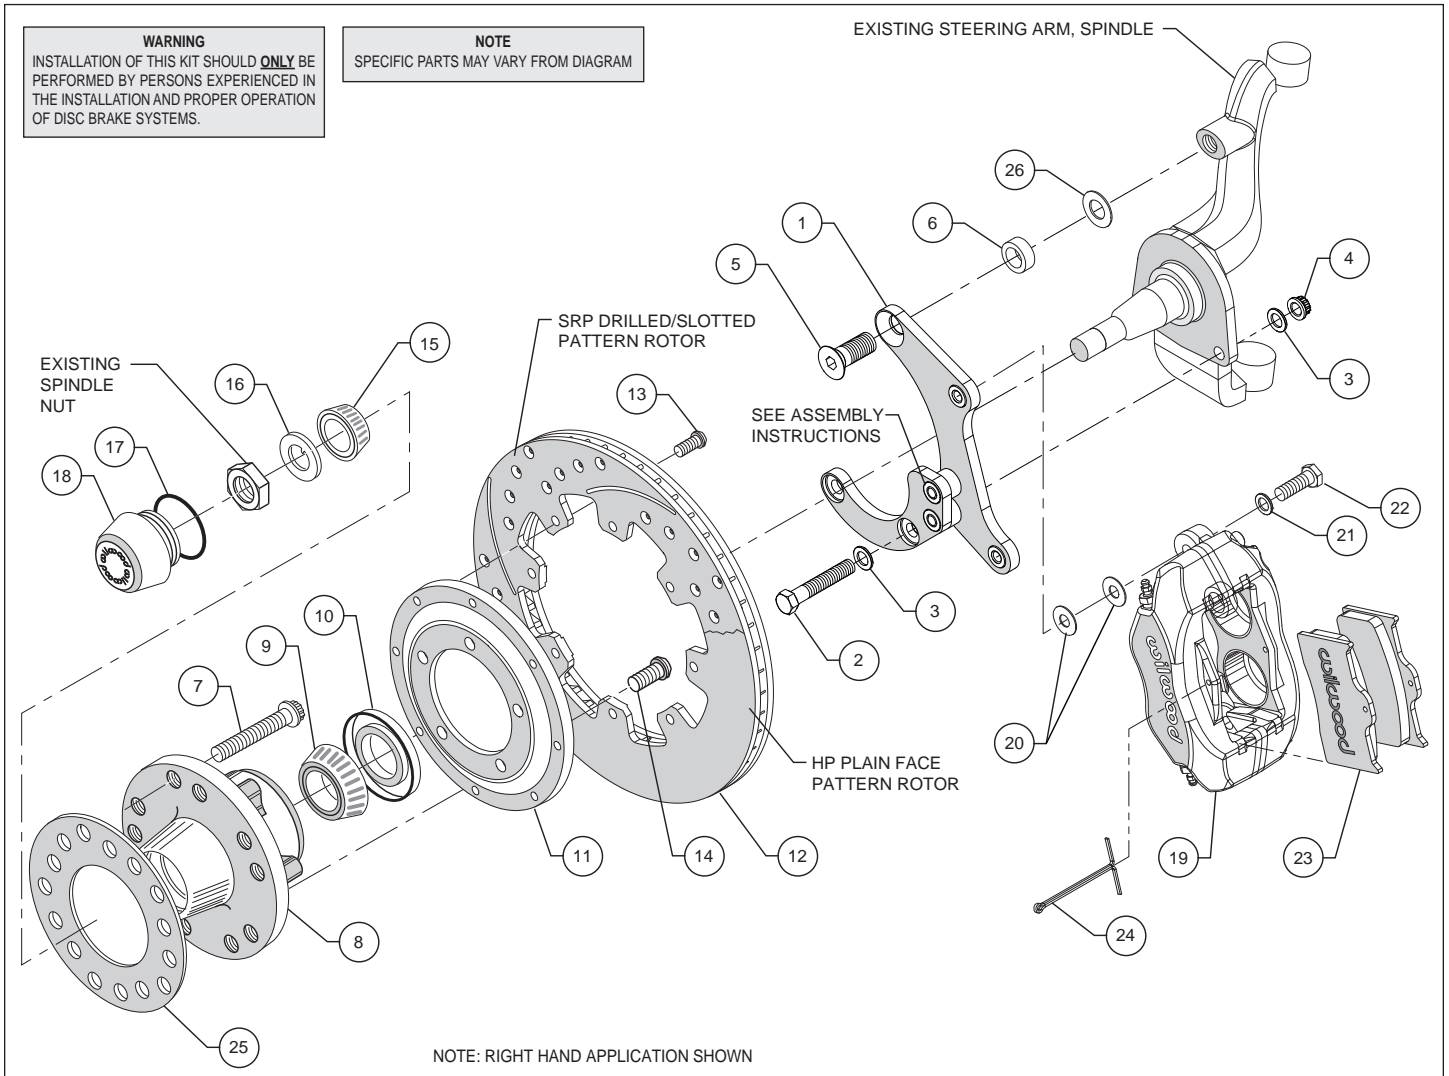
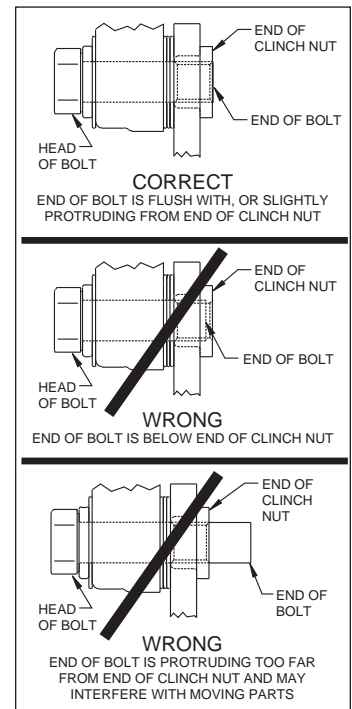

Figure 1. Typical Installation Configuration
Figure 3. Clinch Nut Engagement Diagram
Assembly Instructions (numbers in parenthesis refer to the parts list and Figure 1 on the preceding pages): **CAUTION:** All mounting bolts must fully engage clinch nuts. Be sure to check that all bolts are either flush or protruding through flanged side of clinch nut after shimming, Figure 3.
- The caliper mounting bracket (1) has been assembled at the factory for alignment purposes. Loosen the two bolts that secure the brackets together so that the bolts are hand tight only, this will enable the bracket assembly to be adjusted to accommodate various spindle tolerances during assembly. Align bracket with the two lower holes on the spindle face and attach using bolts (2), washers (3), and secure using lock nuts (4), as shown in Figure 1 and Photo 1. Install bolt (5) through top of bracket while placing spacer (6) between bracket and spindle, Figure 1. Ensure that the flanged heads of the clinch nuts in the bracket are facing outboard, Photo 1. Temporarily tighten the mounting bolts.
- Check that the bracket is aligned parallel to the rotor by assembling and installing the hub/rotor per the step below. If not, add shims (26) between the spacer (6) and the spindle to align the bracket, Figure 1.
- Pack the large inner bearing cone (9) with high temperature disc brake bearing grease (available from your local auto parts store) and install into the backside of the hub (8), Photo 3.
- Install the grease seal (10) by pressing into the backside of the hub (8), flush with the end of the hub, Photo 3.
- Orient the rotor (12) and the rotor adapter (11) as shown in Figure 1 and Photo 4. Attach the rotor to the adapter using bolts (13). Using an alternating sequence, apply red *Loctite*® 271 to the threads, and torque to 25 ft-lb.
- Mount the adapter/rotor assembly (11/12) to the hub (8) using bolts (14), as shown in Figure 1 and Photo 5. Using an alternating sequence, apply red *Loctite*® 271 to the threads, and torque to 55 ft-lb.
- Pack the small outer bearing cone (15) with high temperature disc brake bearing grease and install into hub (8). Slide the hub/rotor assembly onto the spindle. Secure using spindle washer (16) and OEM spindle nut, Photo 6. Adjust bearings by tightening the wheel bearing nut to 60 **in-lbs.** while turning the hub/rotor assembly (11/12). Install saved OEM nut lock (if any) on the wheel bearing nut with one pair of slots in-line with (covering) the cotter pin hole. Back off the adjusting nut lock assembly (or castle nut) one slot and install a new cotter pin (not supplied). **The resulting adjustment should be zero (no pre-load to 0.003 inch end play).**
- Screw dust cap (18) into hub (8), Photo 7. Friction created by the o-ring (17) on the dust cap keeps it from unscrewing. **NOTE:** The O.D. of the existing OEM spindle washer may be larger than the I.D. of the dust cap not allowing it to seat against the hub face. Therefore, use the spindle washer (16) supplied with the kit instead of the OEM washer.
- NOTE:** Please reference the caution statement at the beginning of the assembly instructions. Mount the caliper (19) onto the caliper mounting bracket (1) using bolts (22) and washers (21), as shown in Figure 1. Initially place two .035" thick shims (20) on each bolt between the caliper and the bracket, Photo 8. Temporarily tighten the mounting bolts and view the rotor (12) through the top opening of the caliper. The rotor should be centered in the caliper, Photo 9. If not, adjust by adding or subtracting shims between the bracket and the caliper. Always use the same amount of shims on each of the two mounting bolts. **NOTE:** The end of each bolt must be flush with or slightly protruding from the head of the clinch nut, as shown in Figure 3. If necessary place spare shims between washer (21) and caliper mounting ear to achieve the proper clinch nut engagement. Once the caliper alignment and clinch nut engagement are correct, remove the bolts one at a time, apply red *Loctite*® 271 to bolt threads, and torque to 40 ft-lb.
- Install the disc brake pads (23) into the caliper, with the friction material facing the rotor (12), and secure in place using cotter pin (24), Photo 10.